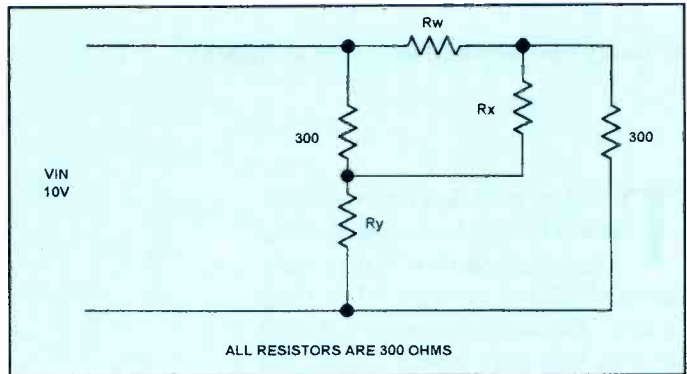

Figure 2. What voltage would you expect to find across Rx?
5. What is the voltage across Rx in Figure 2?